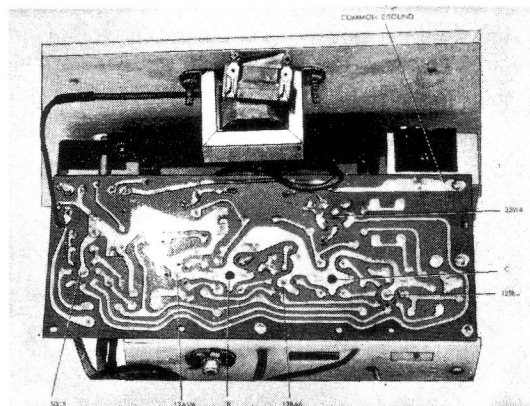

Figure 1. Bottom View of Chassis. Location of tubes and alignment points shown.
- * All readings made between tube socket terminals and common ground; see figure 1.